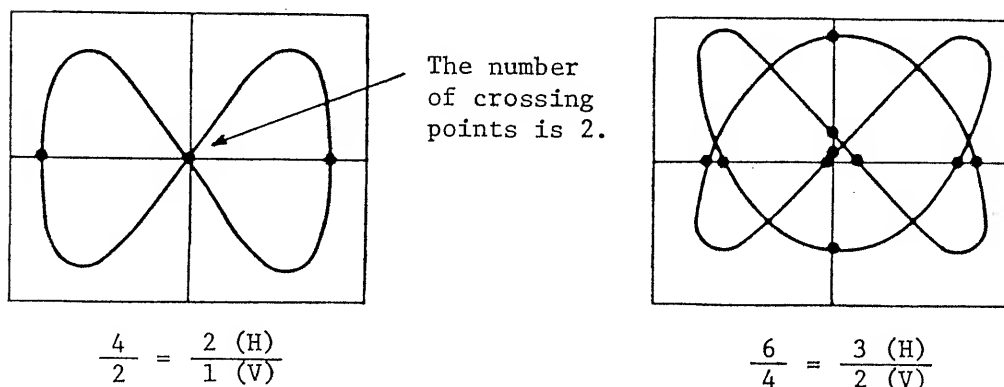

Figure 5-5
- o Frequency measurement with Lissajous figure (See Figure 5-5 and 5-6):